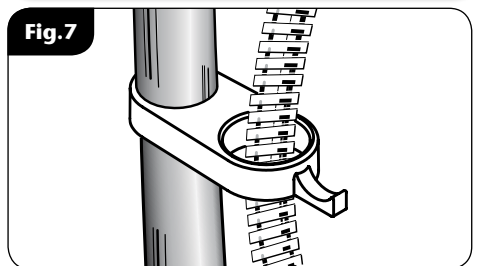

Fig.7
- Feed the flexible hose through the opening in the hose retainer (*The hose retainer **MUST** be used to comply with Water Regulations.*) (fig.7)